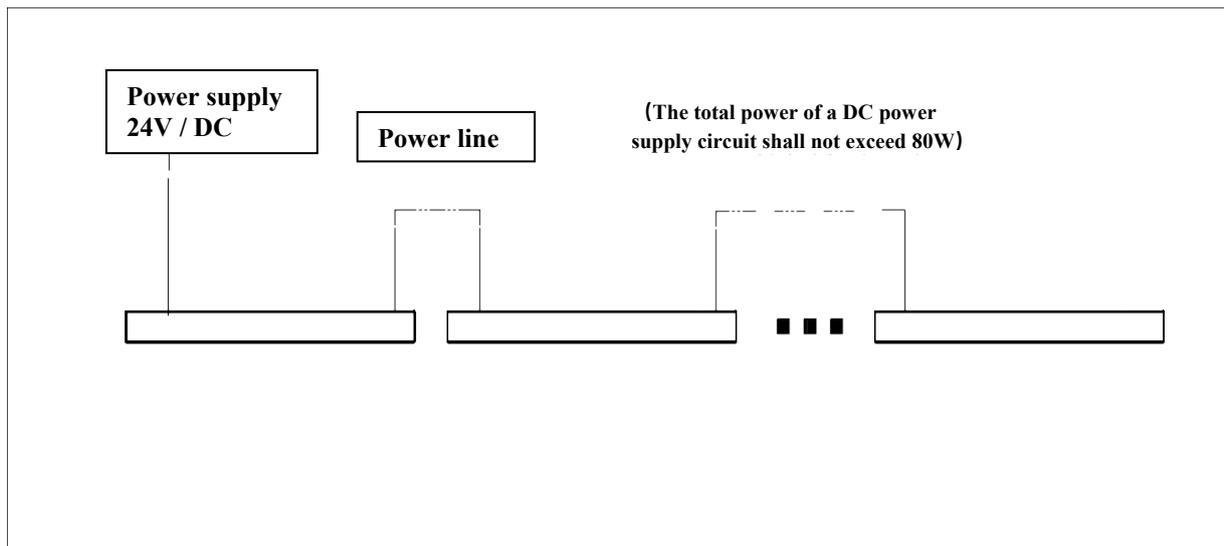

Figure 4
4. The wiring of lamps without dimming function is shown in Figure 4.